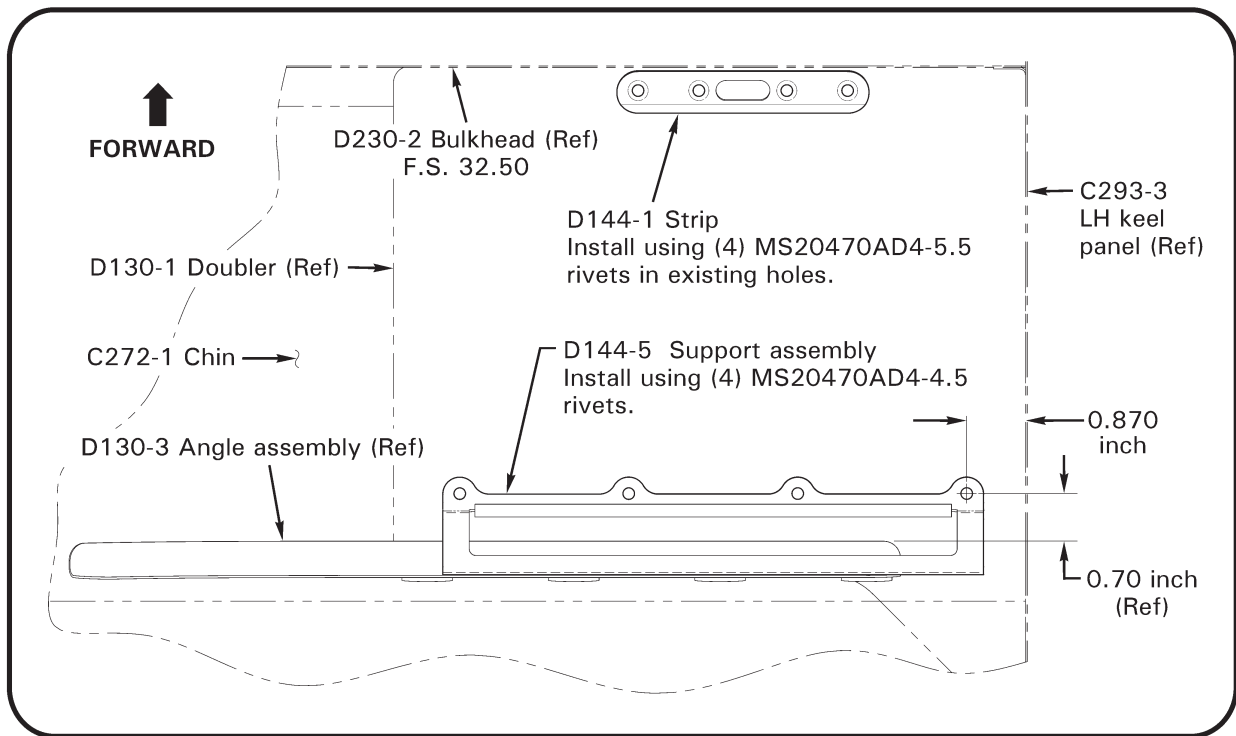

FIGURE 4 Installation dimensions for D144-1 strip & D144-5 support assembly (view looking down)
12. Refer to Figure 4. Position D144-1 strip with installation holes aligned over drilled-out rivet holes (ref step 7) and install appropriately-sized cleco (in center holes) from exterior. Install (2) MS20470AD4-5.5 rivets (each end of strip) from exterior side, ensuring rivet bucked end is 0.150-inch (minimum) diameter and is flush to countersunk hole (of strip) within 0.010 inch. Remove clecos and install remaining (2) MS20470AD4-5.5 rivets as previously described.
13. Install (8) MS20470AD4-4 rivets from exterior side in drilled-out rivet holes (removed D129-2 tray).
14. Refer to Figure 4. Position D144-5 support assembly 0.870 inch inboard from C293-3 LH keel panel and flush to D130-3 angle assembly. Trace with scribe inboard rivet hole. Remove support and drill (1) 0.127–0.133 inch diameter hole. Position support assembly over newly-drilled hole and install appropriately-sized cleco. Using support assembly as template, progressively drill remaining (3) 0.127–0.133 inch diameter holes and install clecos. Remove support assembly. Deburr holes and clean up debris.
15. Cleco D144-5 support assembly in place. Progressively remove clecos and install (4) MS20470AD4-4.5 rivets from exterior side.